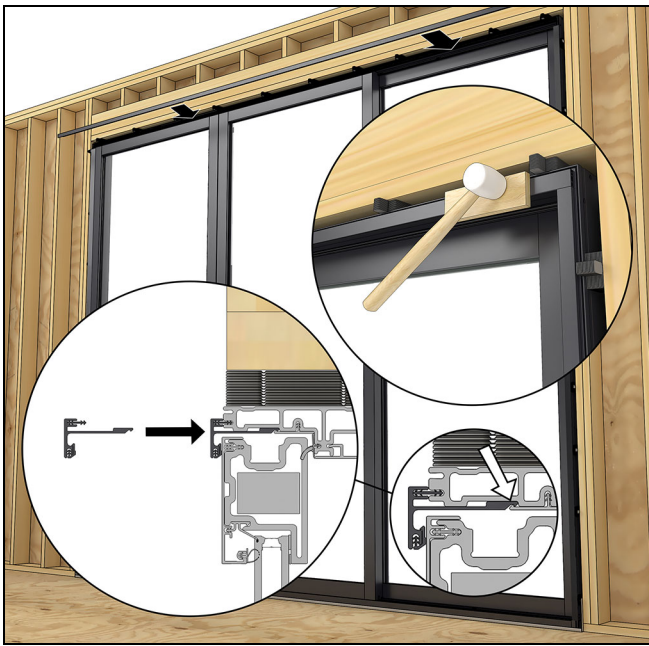

Figure 87
5. Install the head jamb frame retainer over the top of the panels between the panels and head jamb and seat the barb into the frame with a wood block and rubber mallet. See Figure 87.
Make sure the end of the panel retainer engages with the hooked end of the frame liner as shown in Figure 87 with white arrows.